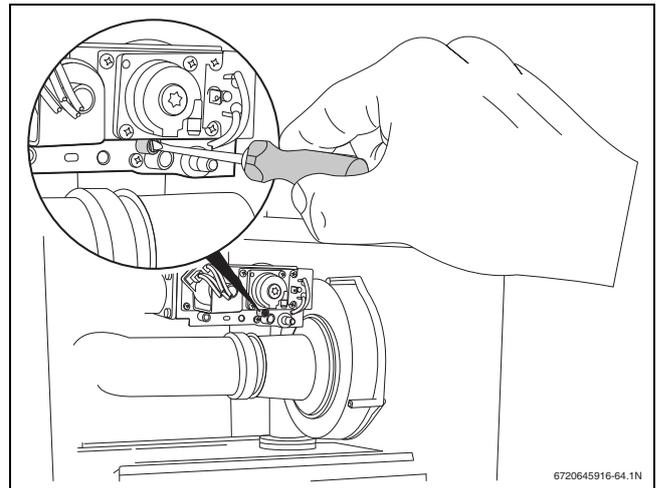

Fig. 68 Adjusting flue gases CO₂ emissions (at full load)
- ▶ If necessary: open the boiler door and adjust the CO₂ percentage to 9.3% by means of the adjustment screw on the gas valve with the red sleeve (→ fig. 68) and close boiler door again. Note the set value in table 27 on page 53.